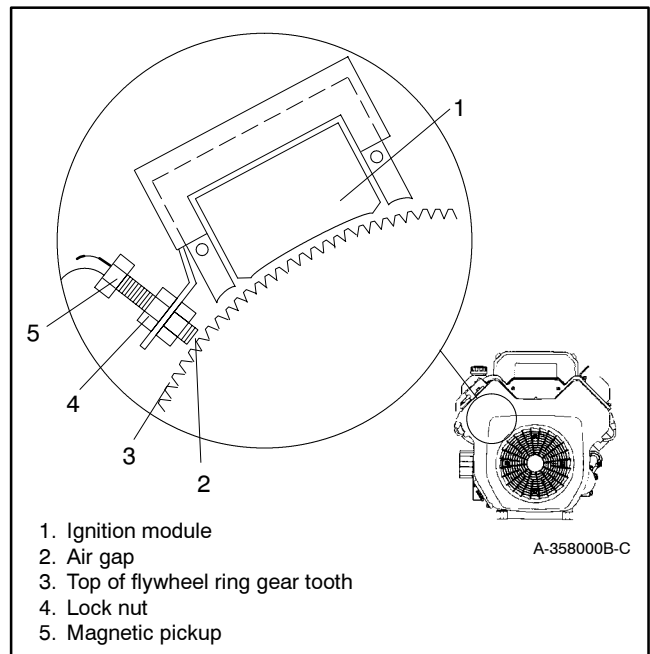

Figure 6-19 Magnetic Pickup Air Gap
5. If the voltmeter displays less than 1.75 volts AC, check the air gap as described in the following steps before replacing the sensor. Verify that the magnetic pickup air gap is 1.02 mm (0.040 in.). Measure the air gap at 3 or 4 places to get an accurate reading. See Figure 6-19.
- d. Adjust the air gap, if necessary, by loosening the locknut and turning the pickup. See Figure 6-19.